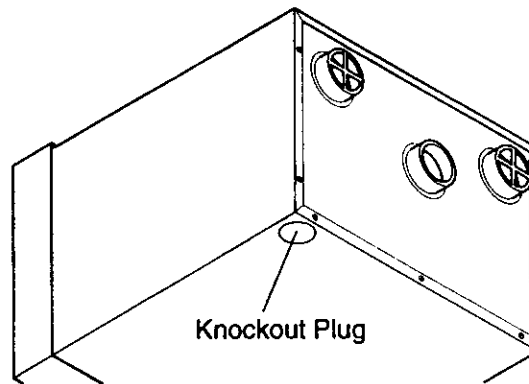

**Figure 12 - Disconnecting Gas Inlet Pipe (40,000 Btu/Hr Model Shown)**
6. Disconnect gas inlet pipe from 3/8" manifold elbow. Turn gas inlet pipe counter clockwise to disconnect (see Figure 12).
7. Rotate the 3/8" manifold elbow 90° so the opening is pointing downward (see Figure 12).